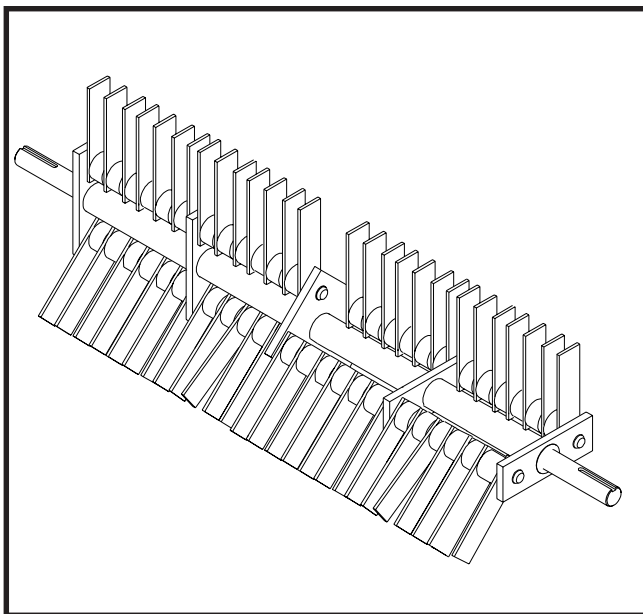

FIGURE 3
- Install the additional 24 blades onto the shaft assembly. When finished, there will be only one (1) spacer between each blade, you will have eight (8) spacers left over. See Figure 3.